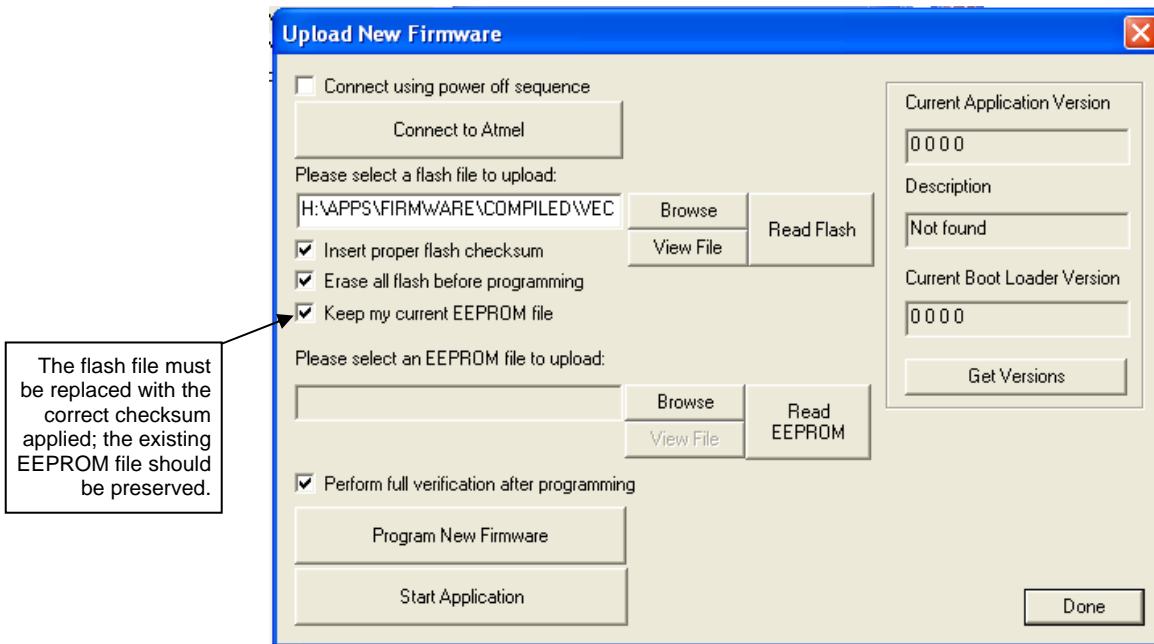

Figure 1: Upload New Firmware Screen
- (d) Acknowledge this pop-up and the **Upload New Firmware** dialog box in Figure 1 will appear.
- (g) Click on the **Read EEPROM** button (see Figure 1) to save the EEPROM to a local folder. Note the location of the saved file for future reference.